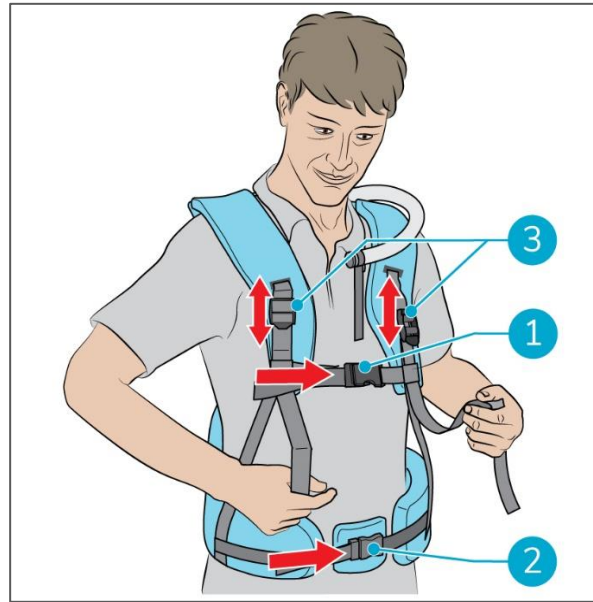

Figure 22
2. Close the chest strap (Figure 22, pos. 1) and the waist strap (Figure 22, pos. 2).
3. Adjust the length of the straps for comfort (Figure 22, pos. 3).